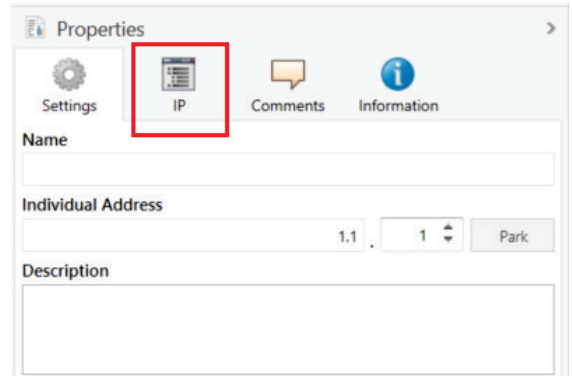

Figure 7: ETS device properties dialogue.
2. Display the device properties in the sidebar on the ETS as shown in Figure 7: ETS device properties dialogue.